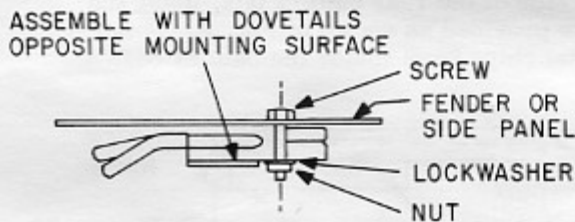

Fig. 4 Receptacle Mounting
9. Attach the receptacle to the left fender as shown in Fig. 4.
5. Attach the receptacle to the inside of the right side panel as shown in Fig. 4.